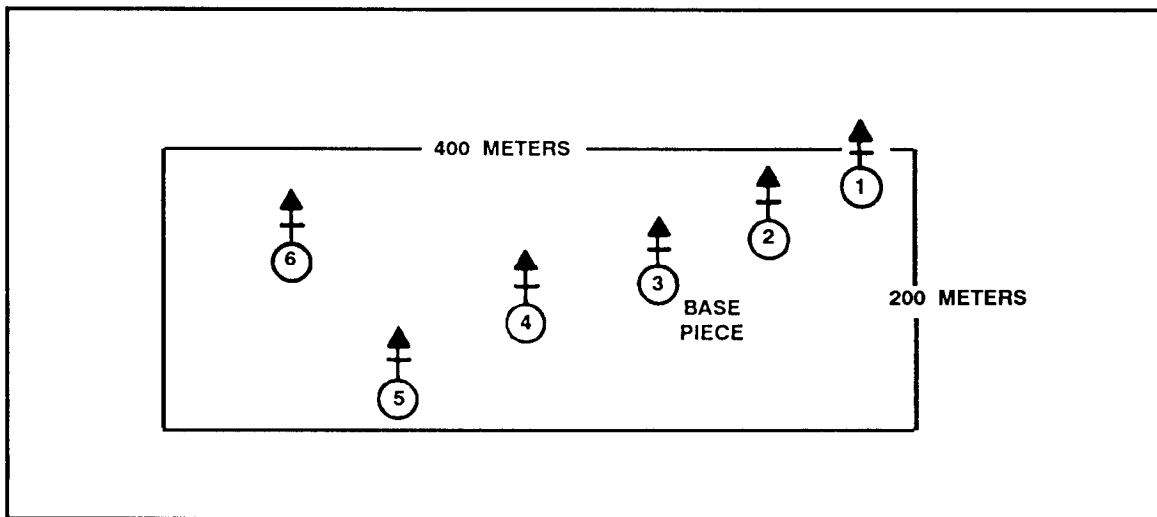

Figure G-6. Dimension parameters for six-mortar platoon.
(2) The box formed by the dimension parameters is centered over the platoon and oriented perpendicular to the azimuth of lay. If the platoon is spread out more than indicated dimensions, a degradation in the effectiveness of sheafs can be expected as fires are shifted throughout the sector away from the center range and deflection (Figure G-6).